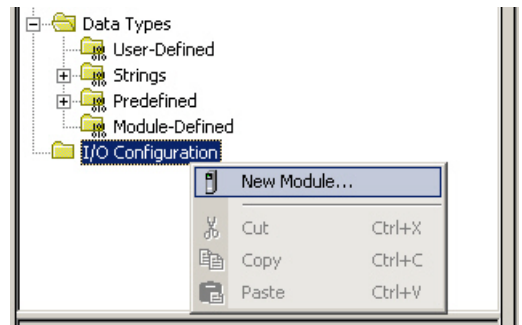

Figure 7.1 Defining a Bridge Module
- 1) Insert a bridge module into the I/O Configuration tree. As shown in figure 7.1 on the right, right click on the I/O Configuration folder and select "New Module..." in the pop-up menu.